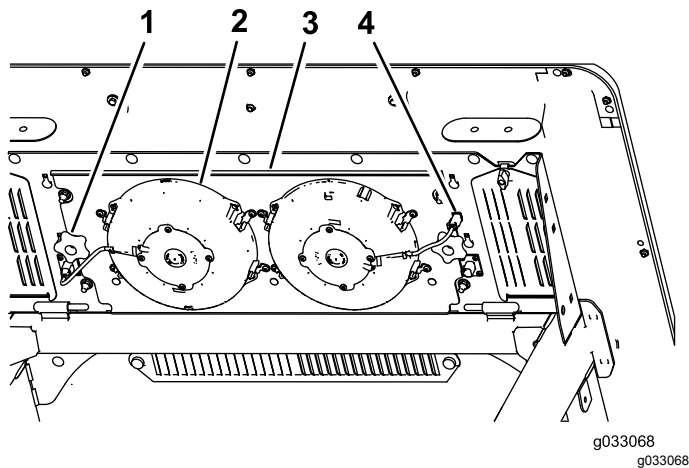

Figure 94
2. Tab (4)
3. Disconnect the plug and cord for the fans from the outlet (Figure 94).
4. Remove the 2 knobs that secure the fan-panel assembly and fans to the underside of the cab top (Figure 94) and remove the assembly.